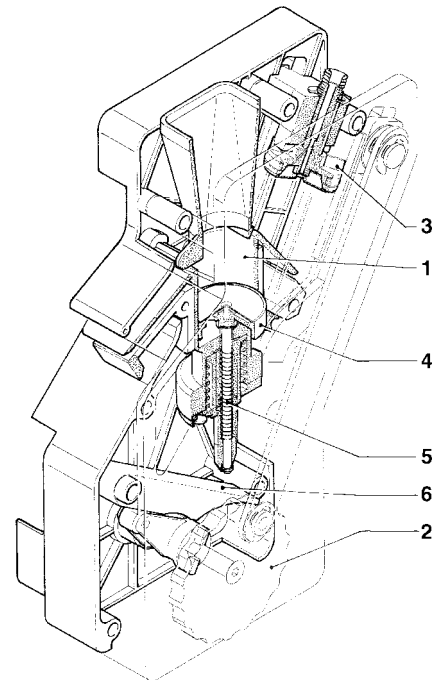

Fig. 12
The coffee falls into the vertical brew chamber (1) (see Fig. 12).